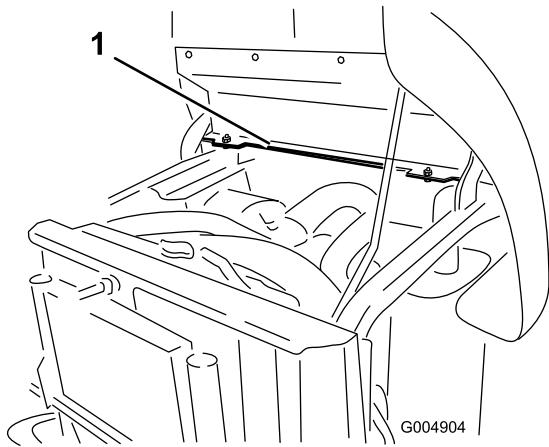

Figure 14
- 8. Locate the 2 mounting holes in the left side of the rear frame mount (Figure 14).